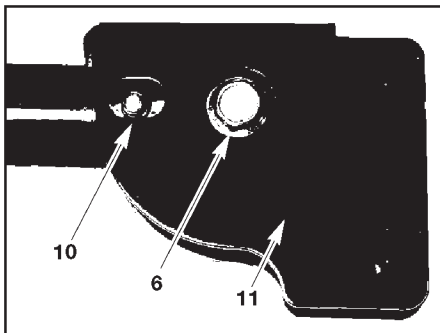

Figure 12
18. On other handle depress snap button (12), slide into handle bracket (11), and release through first slot in handle bracket as shown in Figure 12. Secure handle to handle bracket with screw (6) and locknut (7).